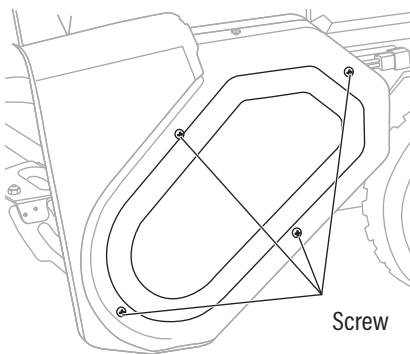

Fig. 14A
1. Unscrew the five screws with a Phillips screwdriver to remove the drive belt cover. (Fig. 14A)
17. Install the belt cover. Screw the five screws with a Phillips screwdriver to remove the drive belt cover. (Fig. 14A)